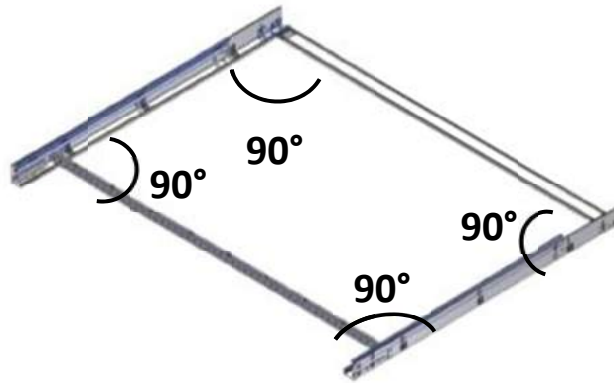

Figure 10 – outer C profile to be used as a spacer
- 4** Use the supplied Outer "C" track (ref SG048P0) to adjust the Elite Spring System frame (figure 10), by placing it inside the vertical angle (see figure 10). Note that the C track should already be cut to the desired length. A proper cut to size will enable your Elite System Frame to be 100% square.